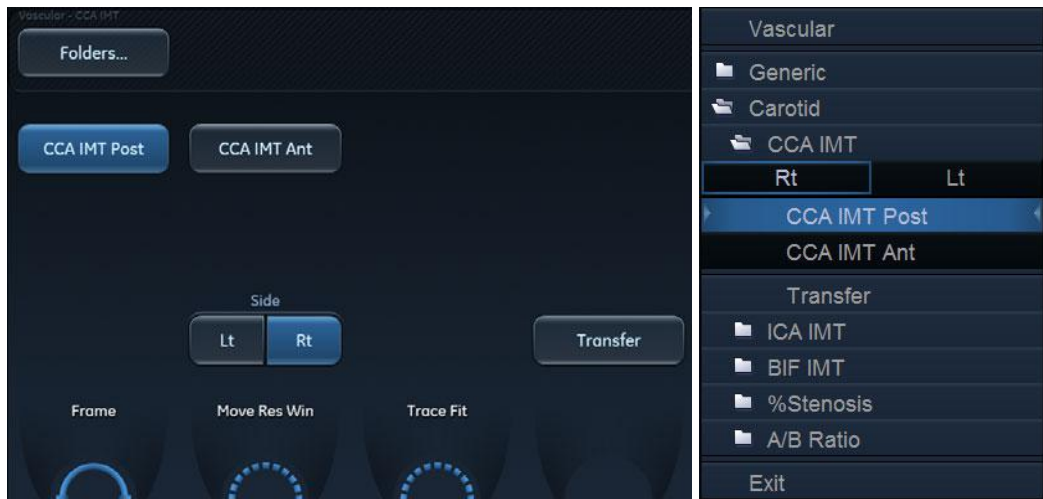

Figure 8-74. IMT Measurement menu (Right Common Carotid Posterior IMT measurement tool)
5. Select the appropriate IMT measurement. If measuring the IMT of the posterior wall of the right common carotid select **Rt** and **CCA IMT Post** (Figure 8-74).